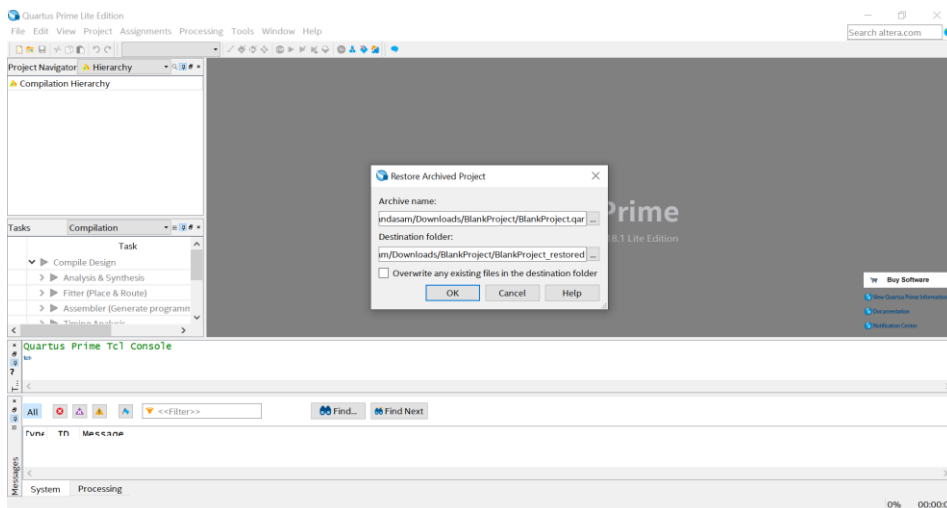

Figure 2: Restore Archived Project for BlankProject
- ❑ When you open the .qar file you will see the message from Figure 2 above. Click **OK** to restore the project.